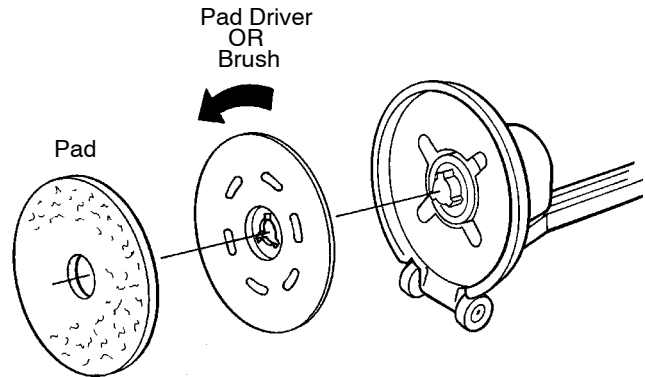

FIG. 1
3. Position the pad driver/brush on the drive motor hub and turn it counter-clockwise to engage (Figure 1).